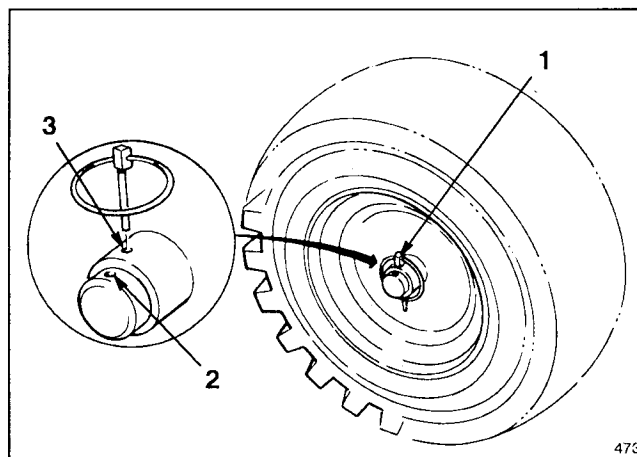

Figure 2
4. Reinstall the wheels. Note that there are two holes in each end of the axle. Axle pins are installed through holes in the wheel hub and through inner hole of axle (Fig. 2).